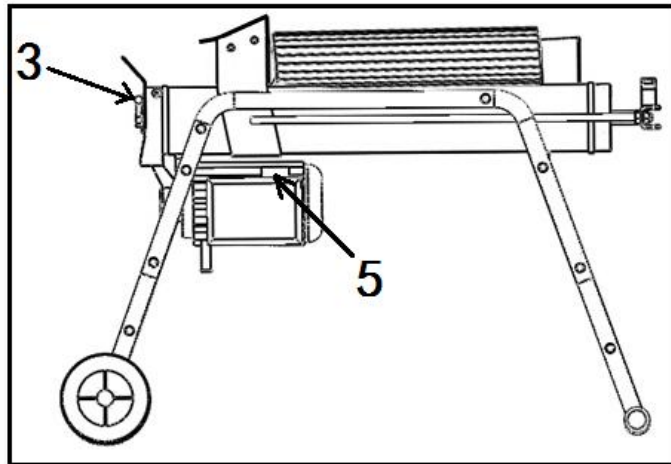

Fig .8
This log splitter is equipped with control system that requires to be operated by both hands of the user – left hand controls the hydraulic control lever (3) while right hand controls the push button switch (5) as shown in Fig. 8. The log splitter will freeze upon absence of either hand. Only after both hands release the controls, the log pusher starts to return backward to the starting position.